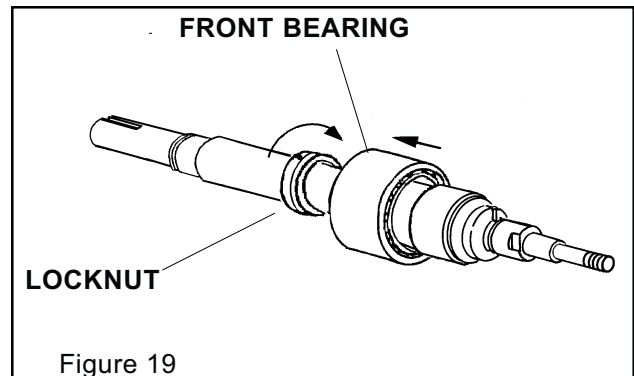

Figure 19
2. Remove bearing locknut from shaft and press front bearing off. (Figure 19)
4. Lubricate inner races and press new bearings onto shaft. Tighten locknut on front bearing. (Figure 19)